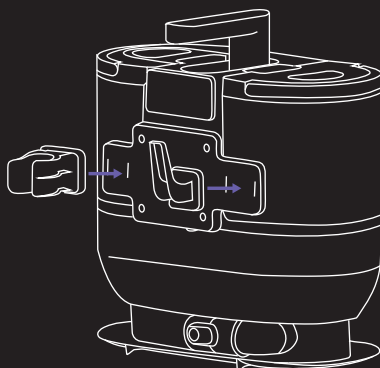

Fig. 2
3. Insert the cleaning tool holder and power cord organizer directly onto the back of the main unit as shown (Fig. 2) until they snap into position. Ensure that the cleaning tool holder and power cord organizer are aligned